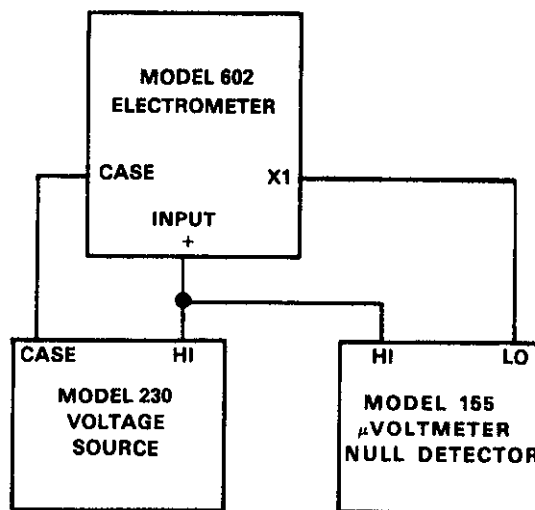

Figure 4-2. Model 602 Unity-Gain Test Set-Up
1. Zero check the Model 602 and set the instrument to the 10V range. Set up the circuit shown in Figure 4-2.